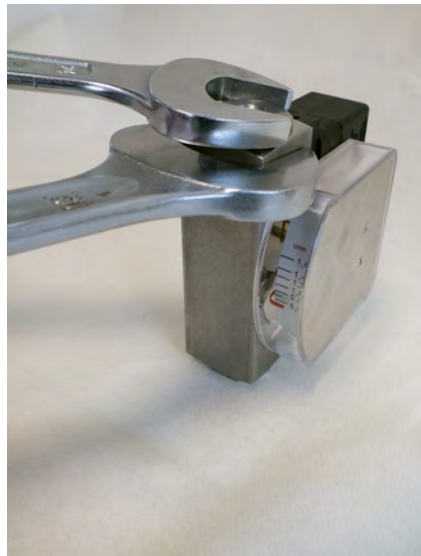

Fig. 42: Loosen process connection (outlet)
6. ➤ Loosen the process connection (outlet) (Fig. 42) using the proper sized fixed spanner wrench. Hold the device body in place using a proper sized spanner wrench.